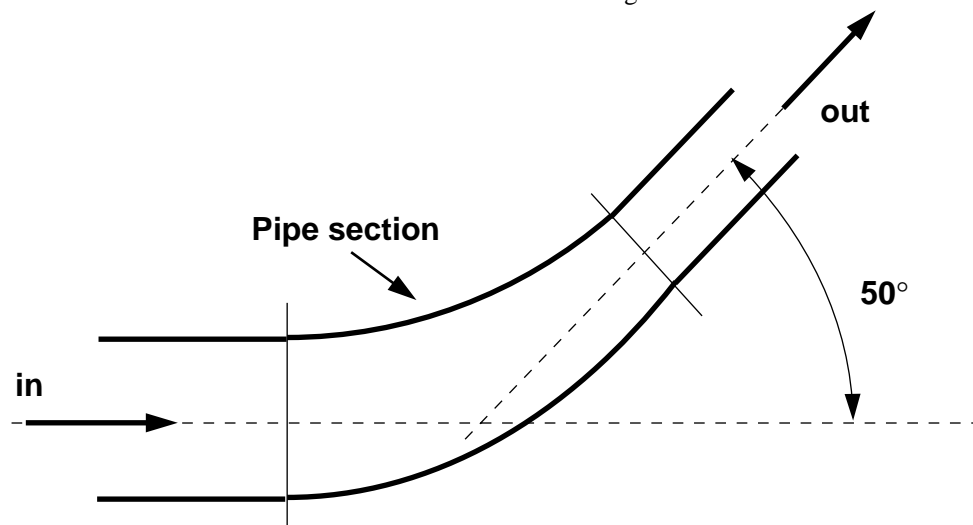

Figure 1.
- 2.a A concrete dam has the cross-sectional profile shown in Figure 1. Calculate the magnitude, direction and position of action of the resultant force exerted by the water per unit width of dam?
- 4 Water flows at a rate of  $0.5\text{m}^3/\text{s}$  rising through a  $50^\circ$ , contracting pipe bend. The diameter at the bend entrance is  $700\text{mm}$  and at the exit  $500\text{mm}$  - as shown in Figure 1.